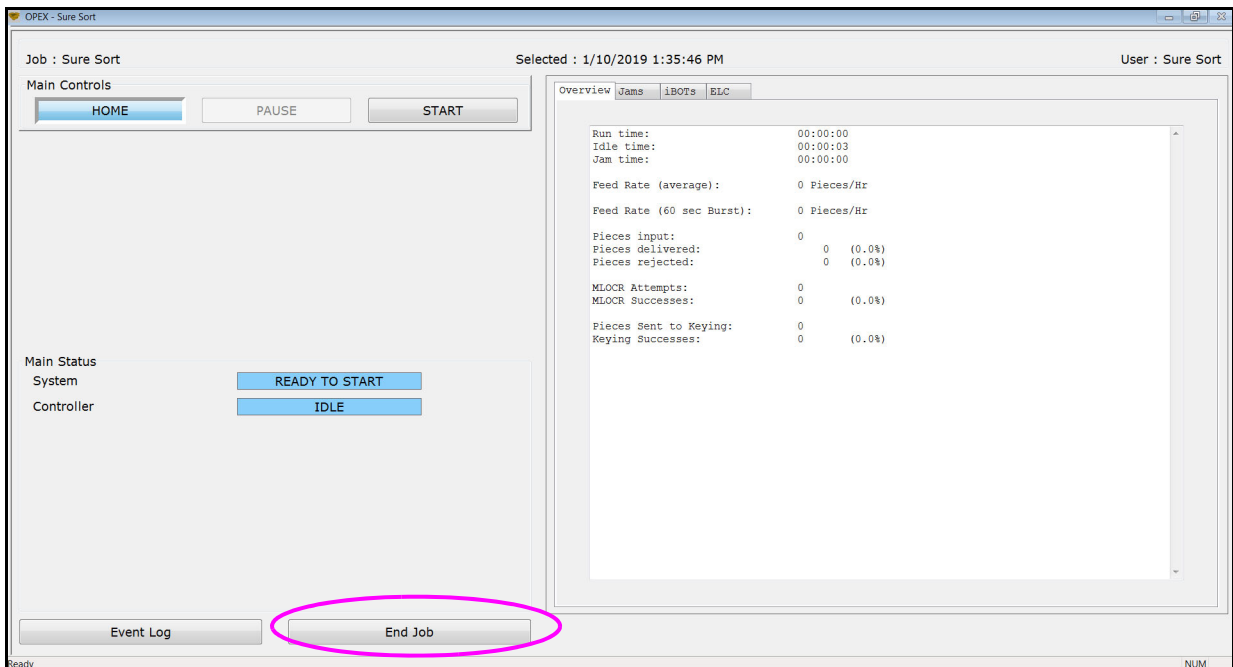

Figure 4-38: OPEX Host Run Screen - End Job
2. To exit out of the Run screen, click **End Job** (see Figure 4-38).